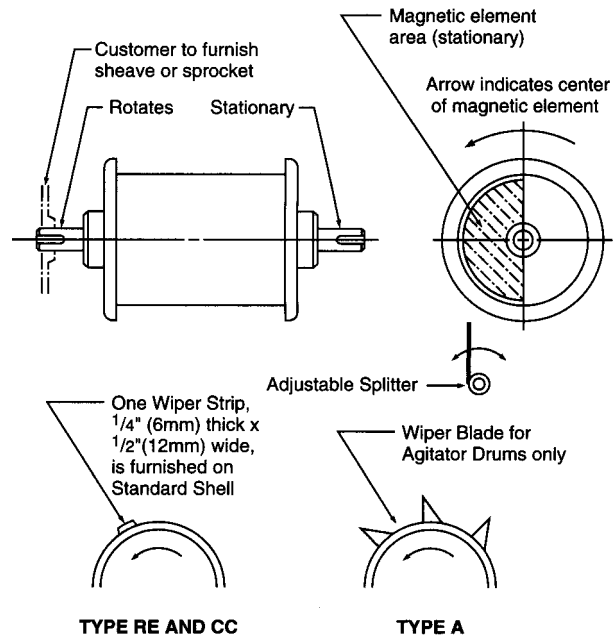

FIGURE 1
1. Drum should be installed on a support frame using a pillow block bearing on the shaft extension which is keyed and a shaft clamp block on the opposite shaft extension. Before clamping the shaft in place, the magnetic element should be correctly positioned as illustrated in Figure 1.
2. A tramp iron divider is required and should be positioned below the drum as illustrated in Figure 1. The splitter should have a knife edge and be fabricated of a nonmagnetic material such as aluminum or stainless steel. It should be adjustable in both position and length. Correct adjustment will be determined when the unit is operating.